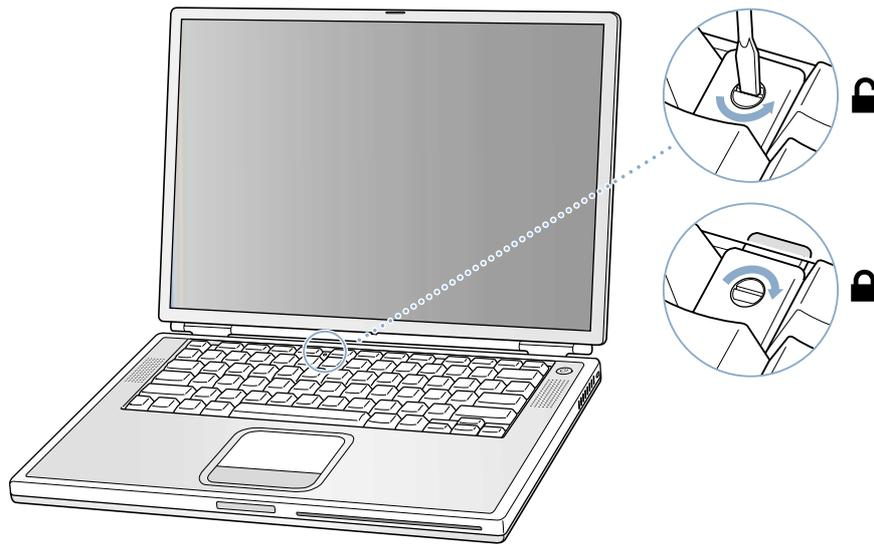

Figure 2
8. Make sure the keyboard locking screw, located in the small plastic tab to the left of the Num Lock key (**Figure 2**), is not in the locked position. Your PowerBook comes with the keyboard unlocked, so unless you or someone else locked the keyboard, you can skip this step.